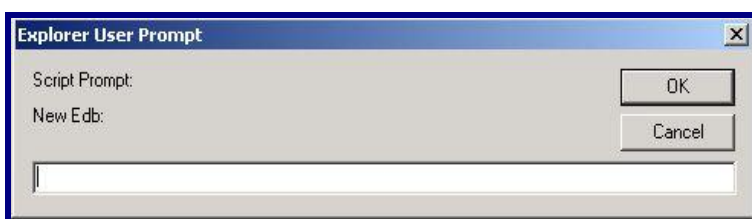

Figure 3.2.2.2 Add new Edb and Copy
- The **New EDB** subwindow will appear. Enter a name for your copy in the text field. See *Figure 3.2.2.2*.